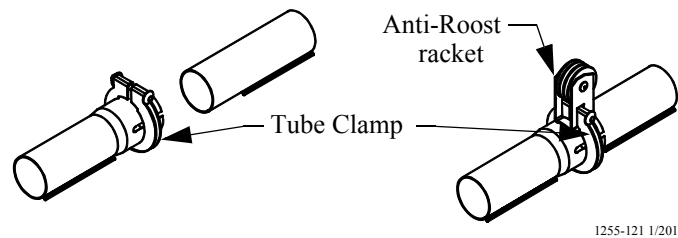

Figure 41. Tube Clamp and Tube Clamp with Anti-Roost Bracket
4. Place a Tube Clamp Assembly or Clamp/Anti-Roost Bracket at each joint. **Figure 41** shows the standard Clamp and Clamp/Anti-Roost Bracket.